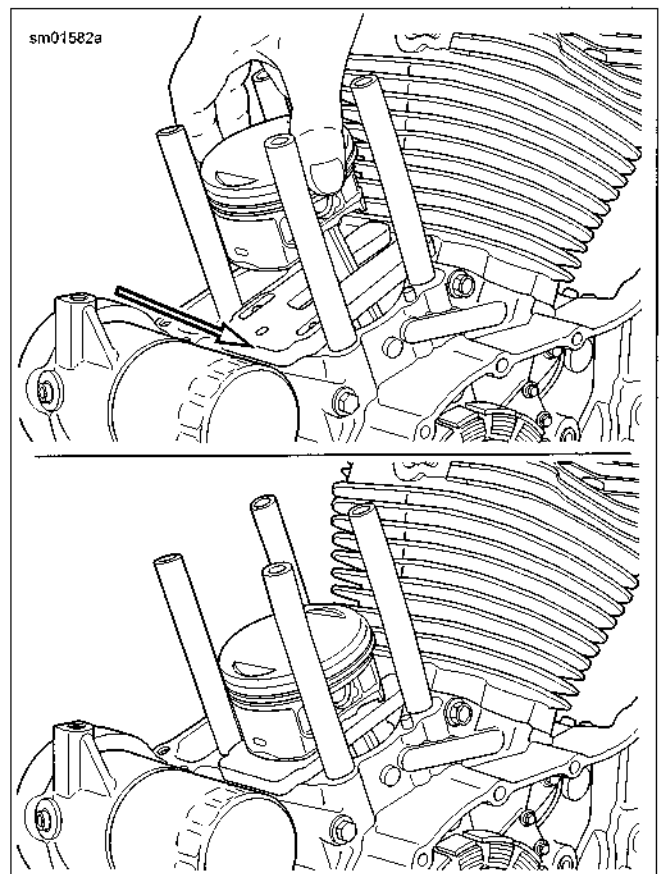

Figure 3-66. Piston Support Plate
8. See Figure 3-66. Install PISTON SUPPORT PLATE (Part No. HD-42322) as shown. Rotate crankshaft to rest piston on support plate.